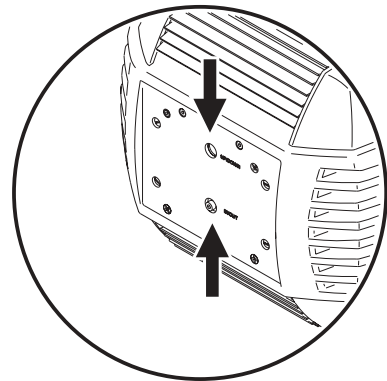

Figure 5: Lamp adjustment screws
2. Center the hot spot vertically using the top Allen-head adjustment screw in the center of the rear plate. (See Figure 5.) If there is significant hot spot, turn the bottom adjustment screw counterclockwise until the light is evenly distributed. If the light is brighter around the edge than it is in the center, or if light output is low, turn the bottom adjustment screw clockwise until the light is bright and evenly distributed.